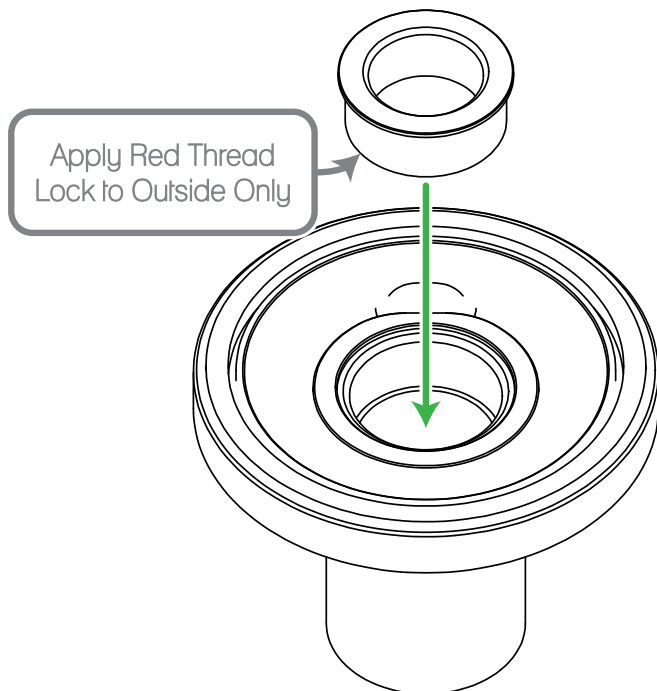

Figure 3 - Installing the Oil Filter Screw Adapter
3. Apply the included thread locker onto HNT-500X as Figure 3 shows.